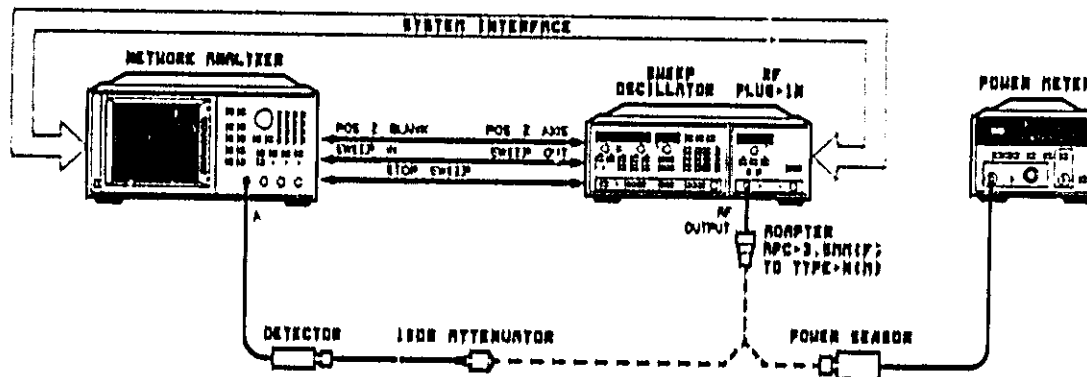

Figure 5-35. ALC Power Calibration Adjustment Setup
1. Connect the network analyzer as shown in Figure 5-35, and press [INSTR PRESET] on the analyzer.